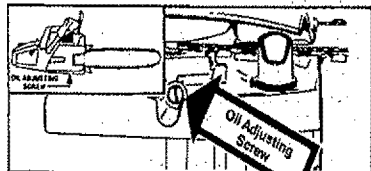

Figure 13
- The adjusting screw is located at the bottom of the saw on the crankcase next to the bar clamp housing and can be adjusted with the screwdriver end of the wrench provided with your saw. Figure 13.